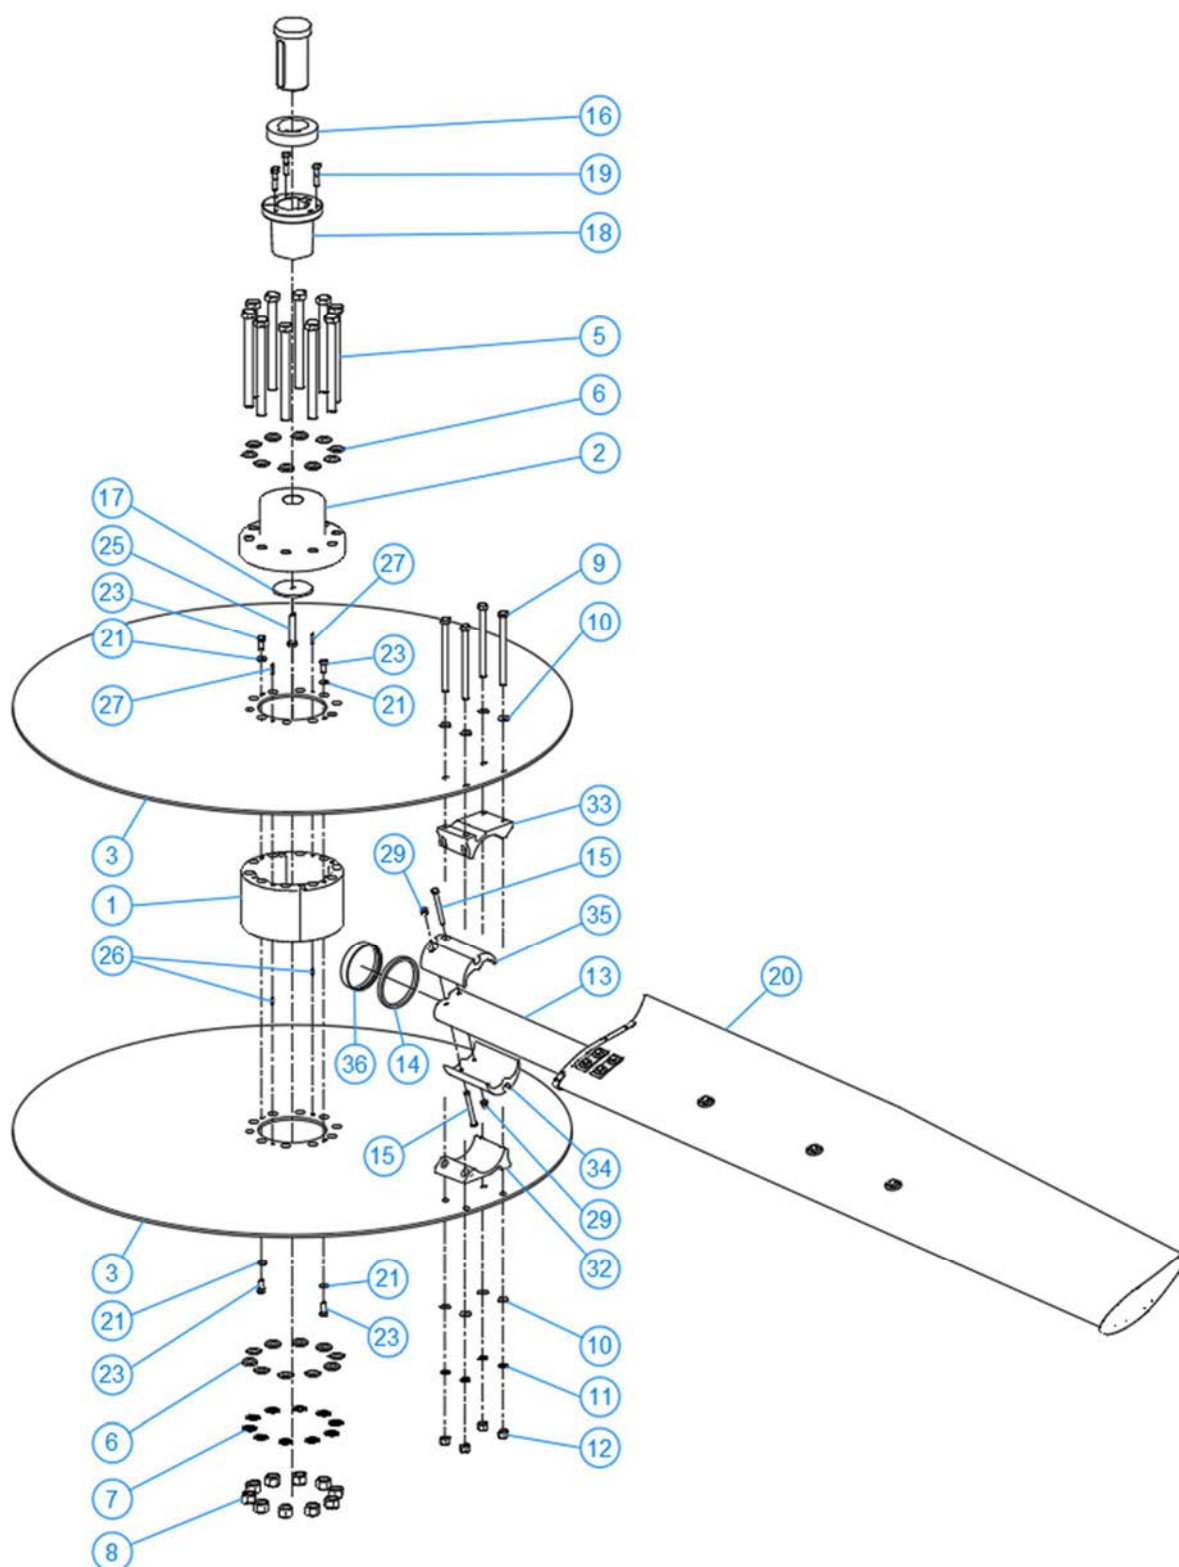

Figure C.1: exploded view of hub mounting parts with external flange
**Table C: part list (see figure C.1, C.2 and C.3)**
NOTE: figure C.1 refers to the configuration with cylindrical bore and also to that with bushing.